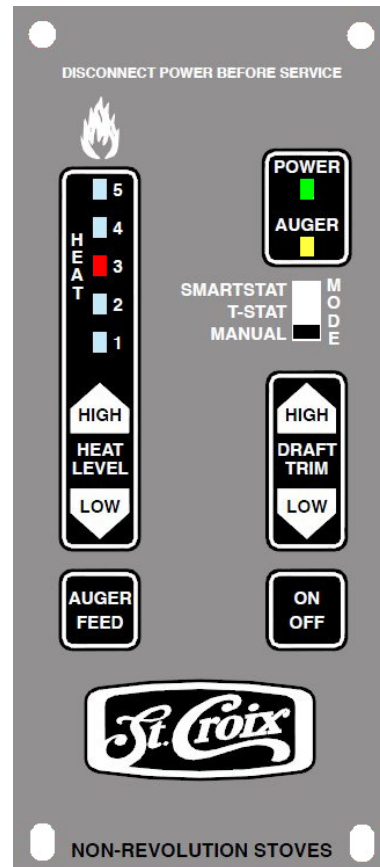

Figure 18
A closer look at the Control Board to the right in figure 18 will explain how the board works. There are essentially 4 buttons on the control board. Two of these buttons, the **Heat Level** and **Trim** Buttons, have a High/Low side to advance these settings up or down. There is a **Slide Switch** that controls the Thermostat Mode and an **LED Light** bar that indicates which of the 5 Heat Settings the Auburn is running on.
4. Close the door and push the On/Off button on the control board. (*See figure 18 on page 26*)